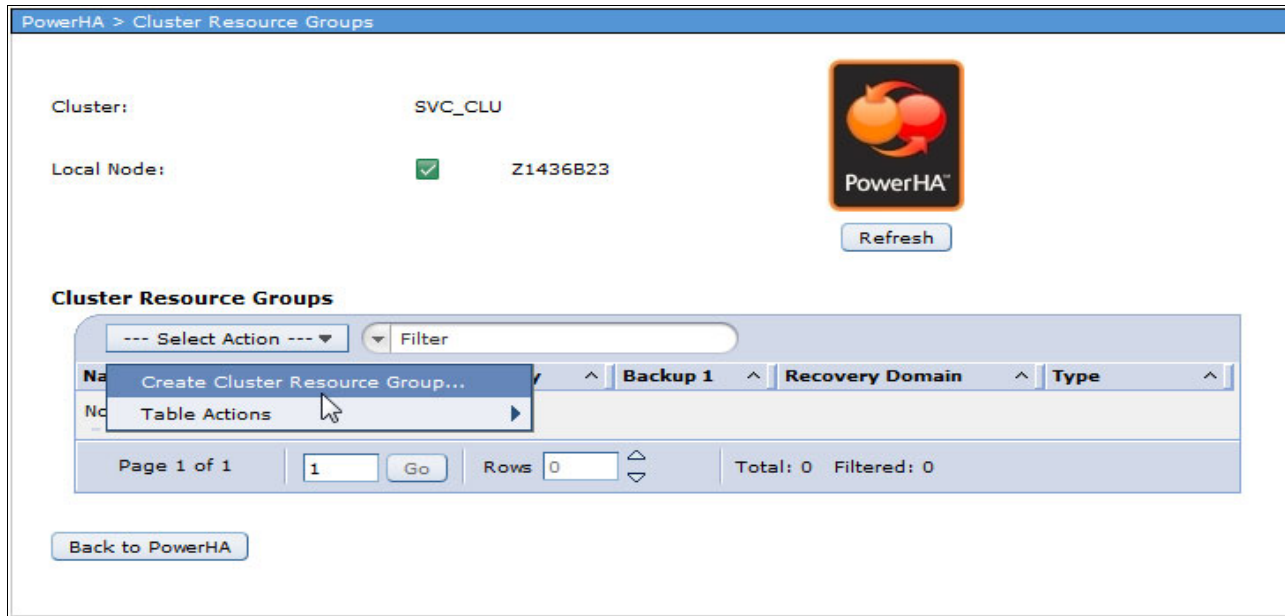

Figure 4-22 Specifying to create a cluster resource group
19. In the PowerHA Cluster Resource Groups window, select **Create Cluster Resource Group** from the Select Action drop-down menu, as shown in Figure 4-22.